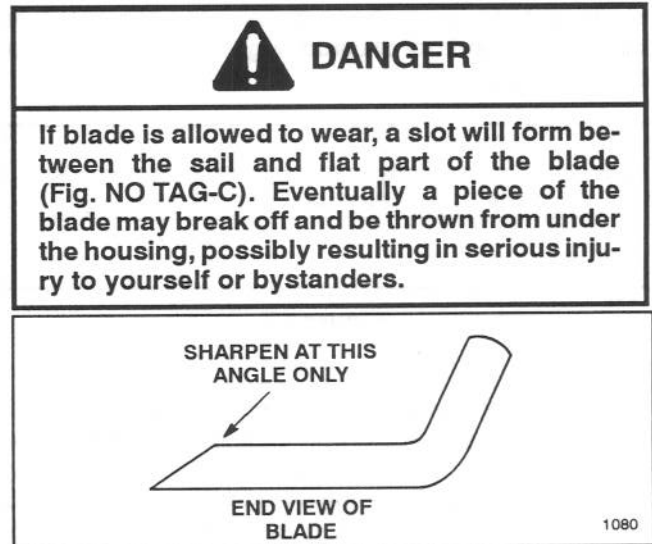

Figure 15
2. Examine cutting edges of all blade(s). Sharpen the cutting edges if they are dull or nicked. Sharpen only the top of the cutting edge and maintain the original cutting angle to make sure of sharpness (Fig. 15). The blade will remain balanced if same amount of metal is removed from both cutting edges.